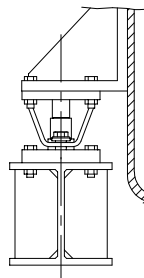

Figure 5-22b
- Figure 5-22b: Support bracket and support structure are aligned properly.